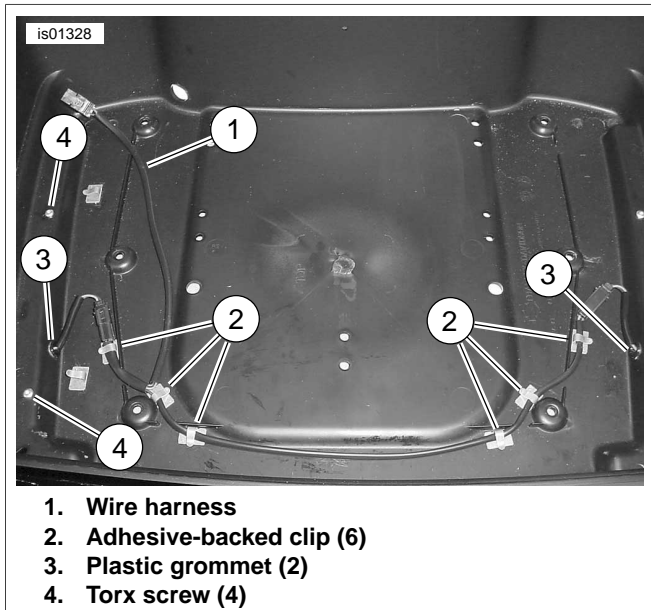

Figure 4. Wire Harness Routing
- See Figure 4. Place light housings into position and feed cords through 0.50 in. (12.7 mm) hole.
- Install light assemblies by aligning holes in Tour-Pak with threaded bosses in light housings and using two T15 TORX® screws (4) removed earlier.
- Install plastic grommet (3) on light wire and push into 0.50 in. (12.7 mm) hole.
- Place wire harness (1) in bottom of Tour-Pak and arrange as seen in Figure 4. Use adhesive-backed clips (2) to retain harness in position.